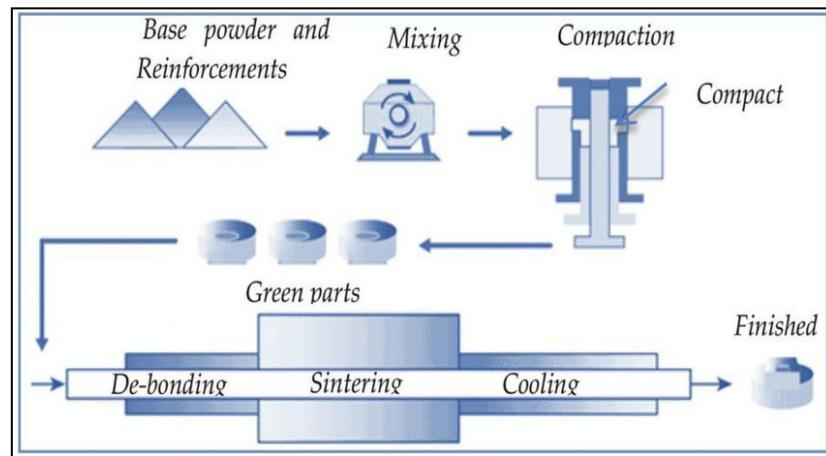

Figure 3(b) / Rajah 3(b)
- CLO1 (b) Powder metallurgy is a metal-forming technology that uses powders as raw materials. Figure 3(b) shows the steps in conventional powder metallurgy process.
- i. Elaborate each step shown in Figure 3(b).